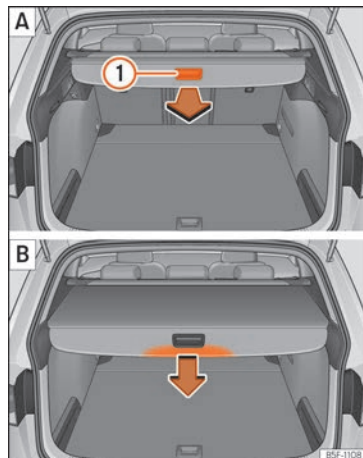

Fig. 139 In the luggage compartment: unrolling and rolling up the shelf.
• Pull evenly on the rear shelf using its handle »» Fig. 139 ① A in a backwards direction until it audibly clicks into place.
• Press on the handle of the rear shelf in the direction of the arrow to release it »» Fig. 139 ① B.